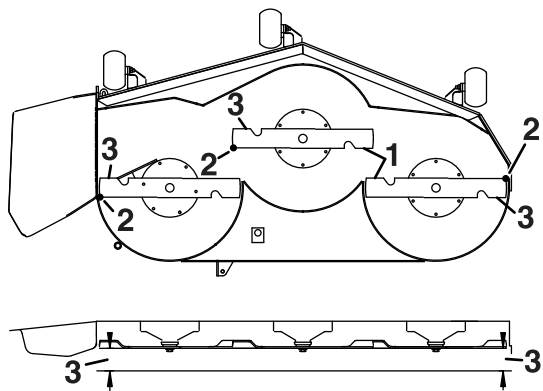

Figure 72
4. Measure between the outside cutting edges and the flat surface (Figure 72).